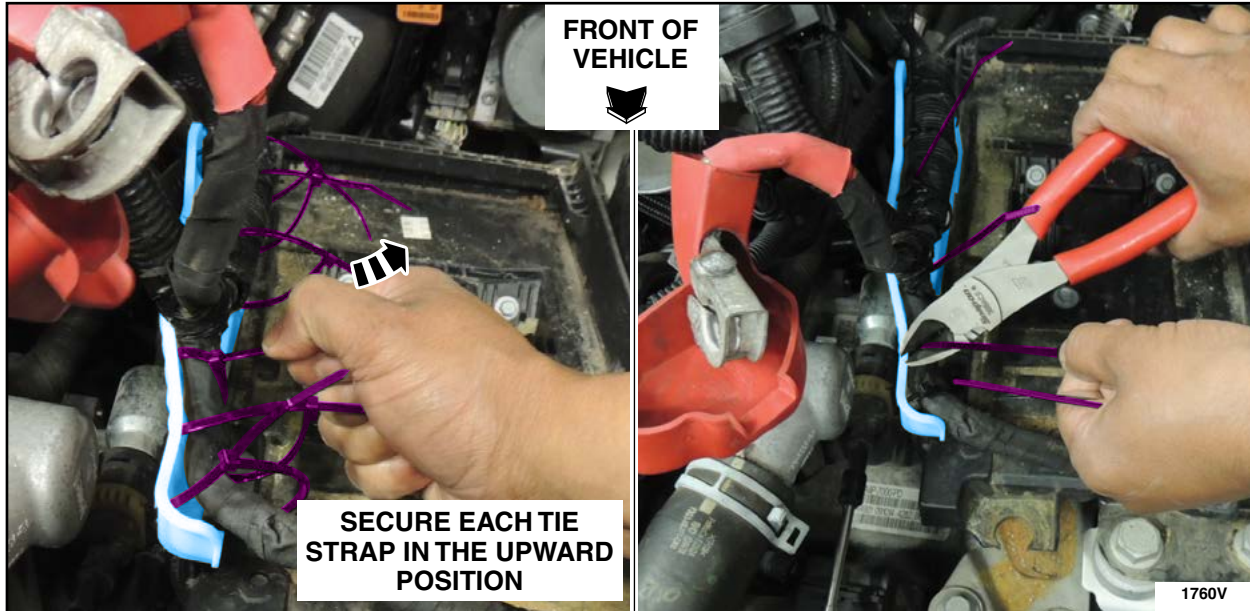

FIGURE 9
10. Starting at the tie strap just in front of the battery cable wiring leg, secure each tie strap working from the center outward to the ends. End each tie strap in the upward position. Cut off the excess tie strap at each tie strap location. See Figure 9.